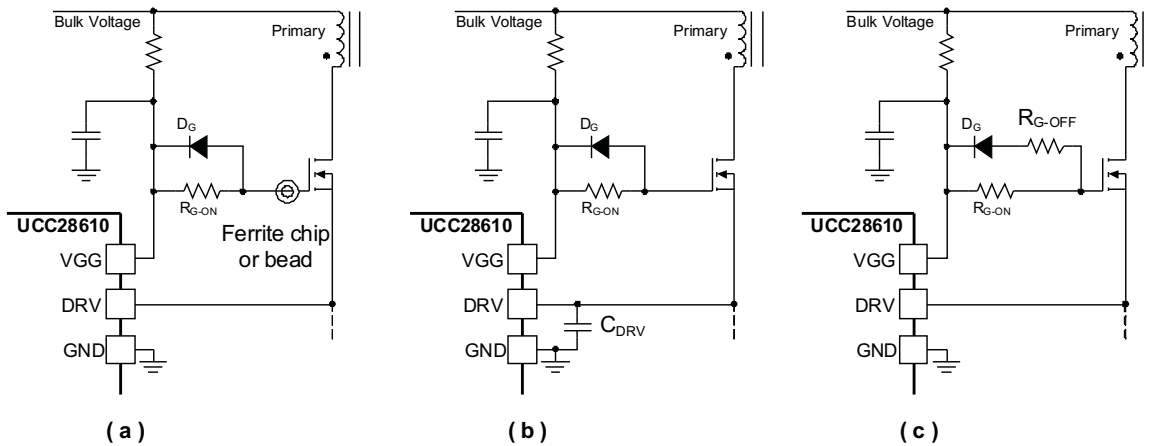

图 35. High Frequency Ringing Solutions, (a) ferrite chip, (b) CDRV and (c) RG-OFF
3. A gate turn-off resistor. These three techniques can be used separately or combined, as shown in 图 35.